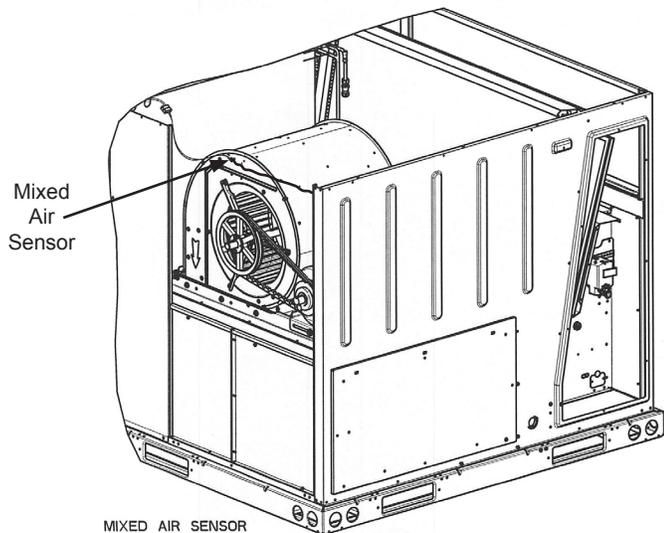

Figure 8 - Mixed Air Sensor Location
3. Mount the mixed air sensor to the indoor fan through the existing screw on the blower. See Fig. 8.